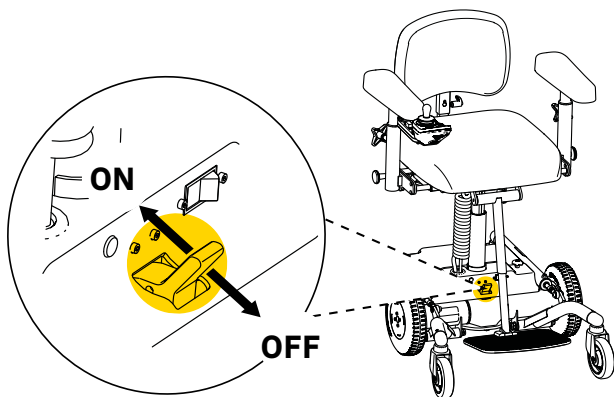

Figure 3.2. Disengaging the brake.
- The device moves by rolling on a flat surface. The brake must be disengaged in order to roll the device. To disengage, pull the lever to the "OFF" position. To activate the brake, push the lever to the "ON" position, see Figure 3.2.